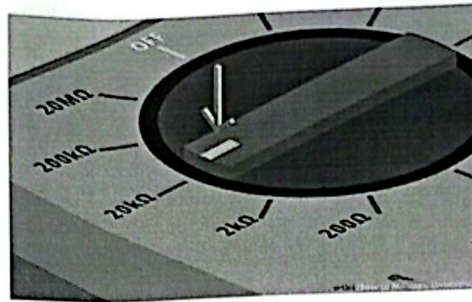

Figure 3: Turning the regulator to nearest value of resistance.
- Once you get in the right range, try lowering the range one more time to see if you can get a more accurate reading. Use the lowest range setting for the most accurate resistance readings, as depicted in figure 3.